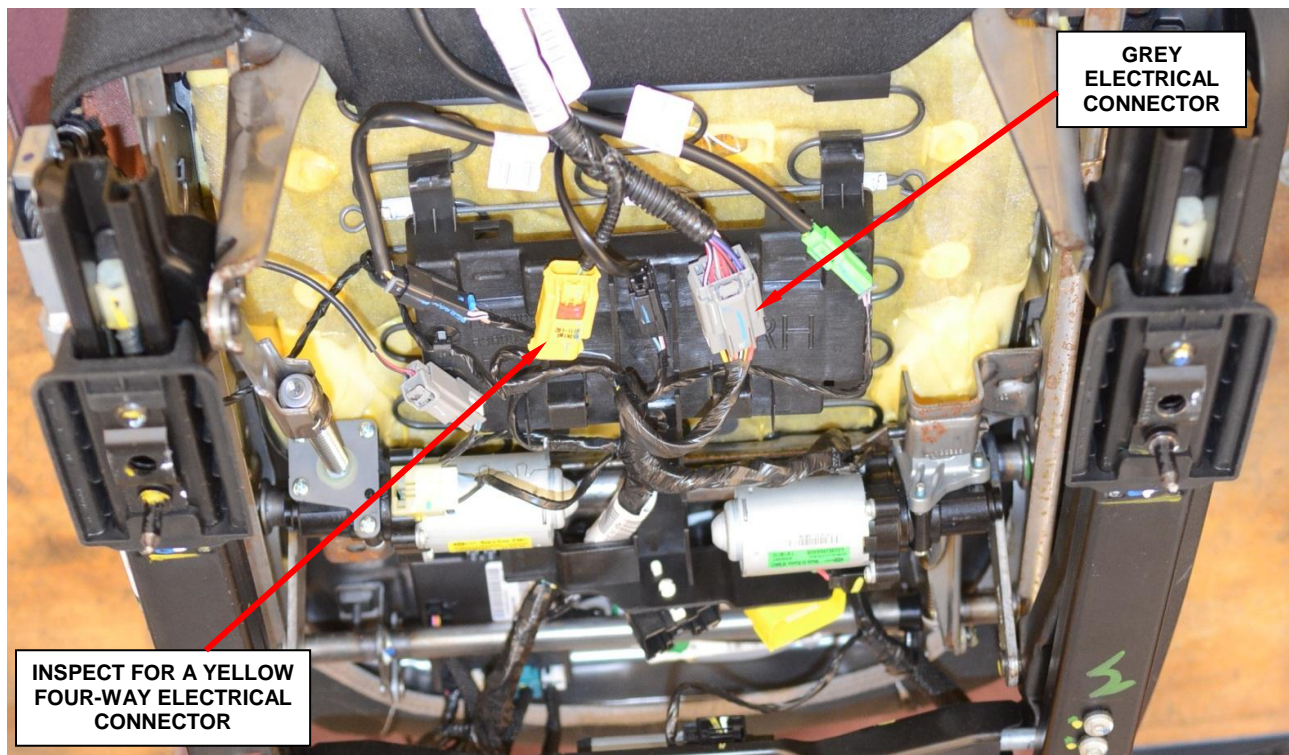

Figure 1 – Inspect for a Yellow Electrical Connector Under Each Front Seat
2. Using an inspection mirror look under the back of the seat cushion for a yellow four-way electrical connector (Figure 1):